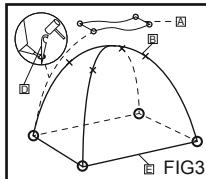

FIG3
5. Now cover the tent with the outer tent <A> and hook the 4 loops. (FIG3)
6. Secure the tent by pushing the tent pegs <D> into the ground loops. (FIG3)